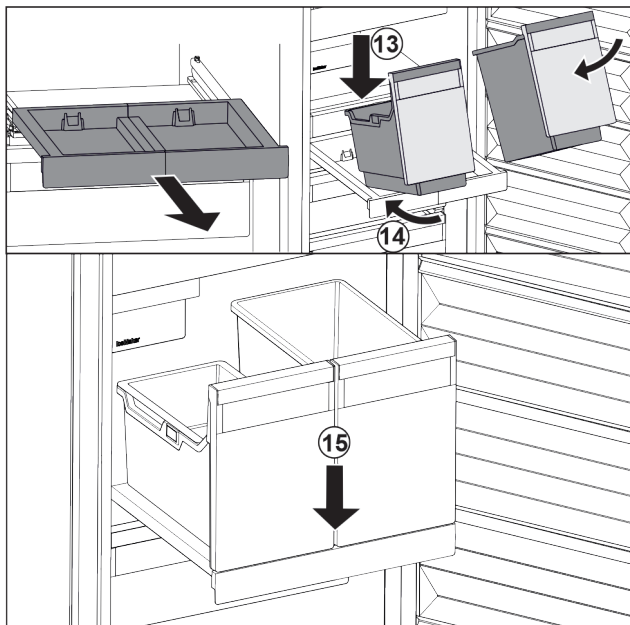

Fig. 29
- ▶ Place the container at an angle on the pull-out board. Fig. 29 (13)
- ▶ Slide in the container at an angle to the back. Fig. 29 (14)
- ▶ Place container at the front. Fig. 29 (15)